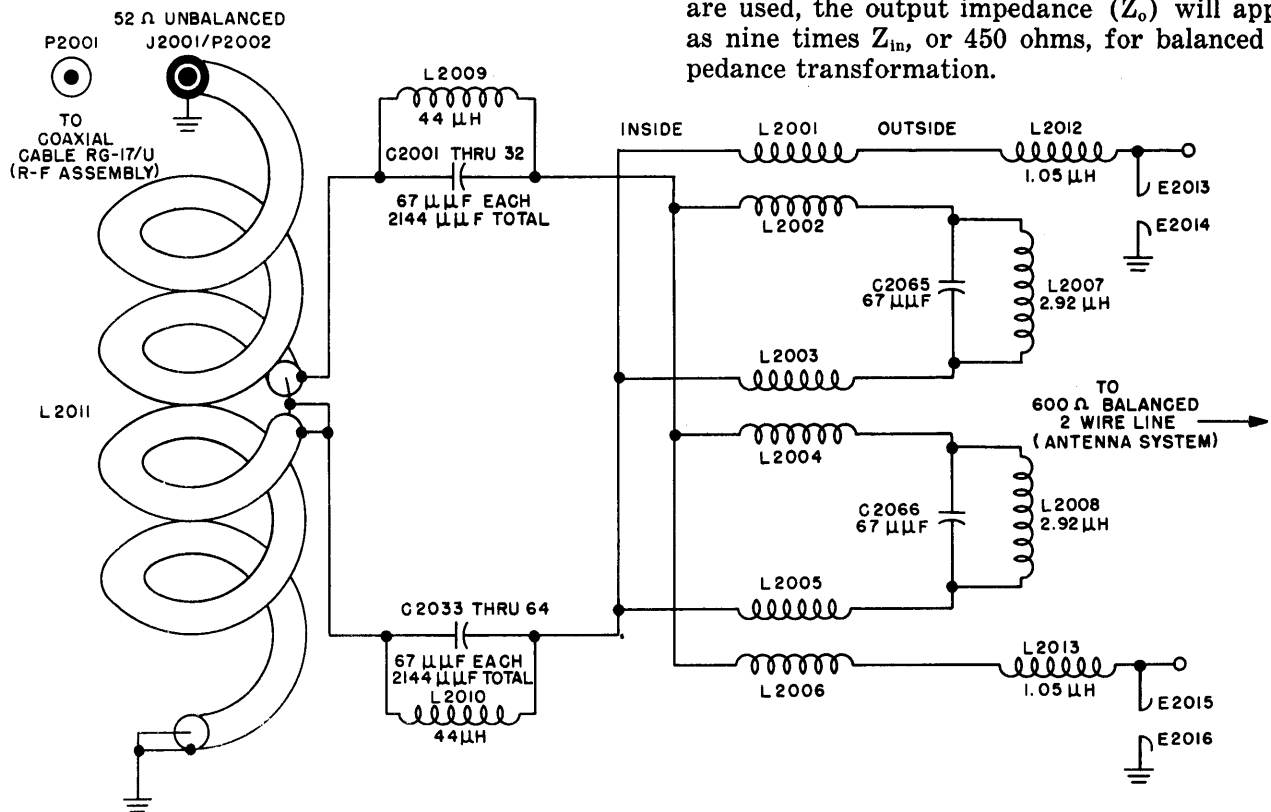
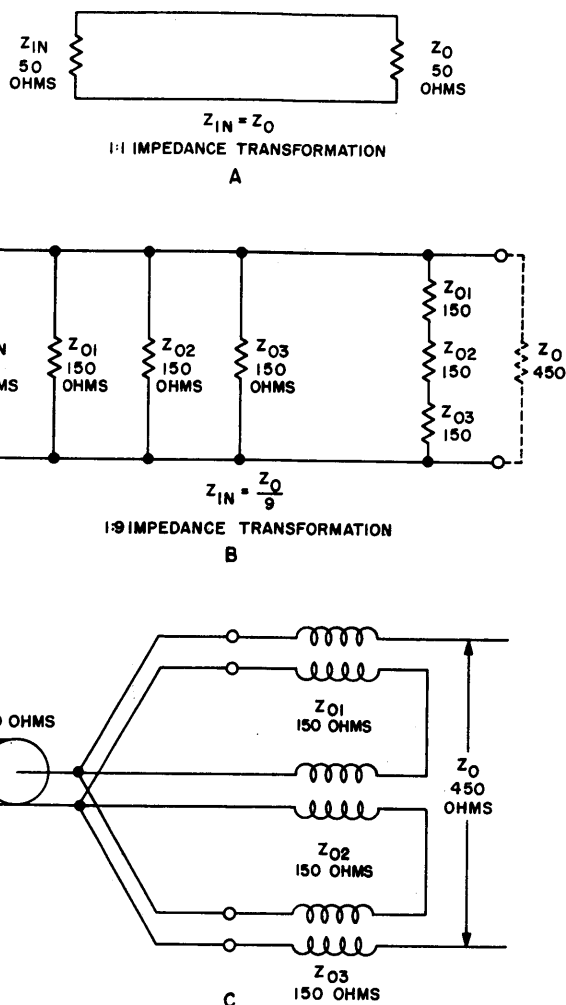

Figure 2-29. Transmission Line Coupler CU-390/FRT-24, Schematic Diagram
Figure 2-30. Derivation Diagrams for Transmission Line Coupler
b. TRANSMISSION LINE COUPLER CU-390/FRT-24 (see figure 2-29).—The Transmission Line Coupler is a device that provides both balancing and impedance transformation. It matches the unbalanced 52-ohm output from the pi-L coupler of the transmitter to a balanced 600-ohm, two-wire line feeding the antenna system. Figure 2-30, A through C, illustrates the basic theory from which this coupler was derived.